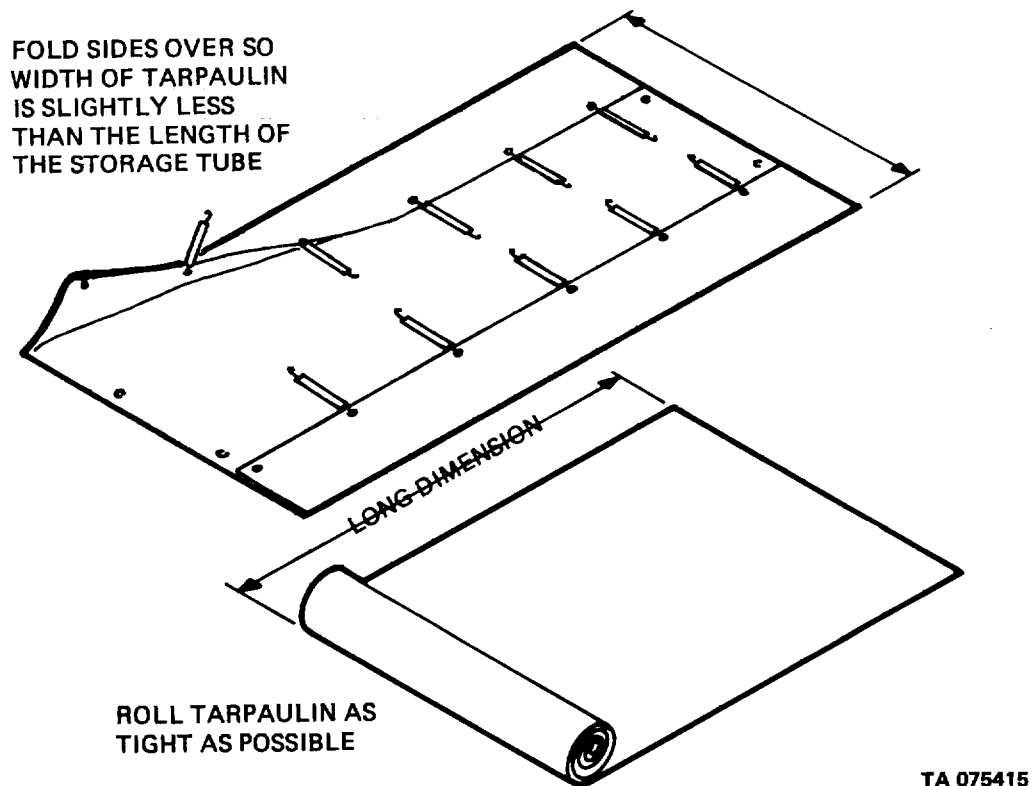

Figure 2-15. Preparing the Tarpaulin for Stowage
- Clean and fold the tarpaulin (fig. 2-15).